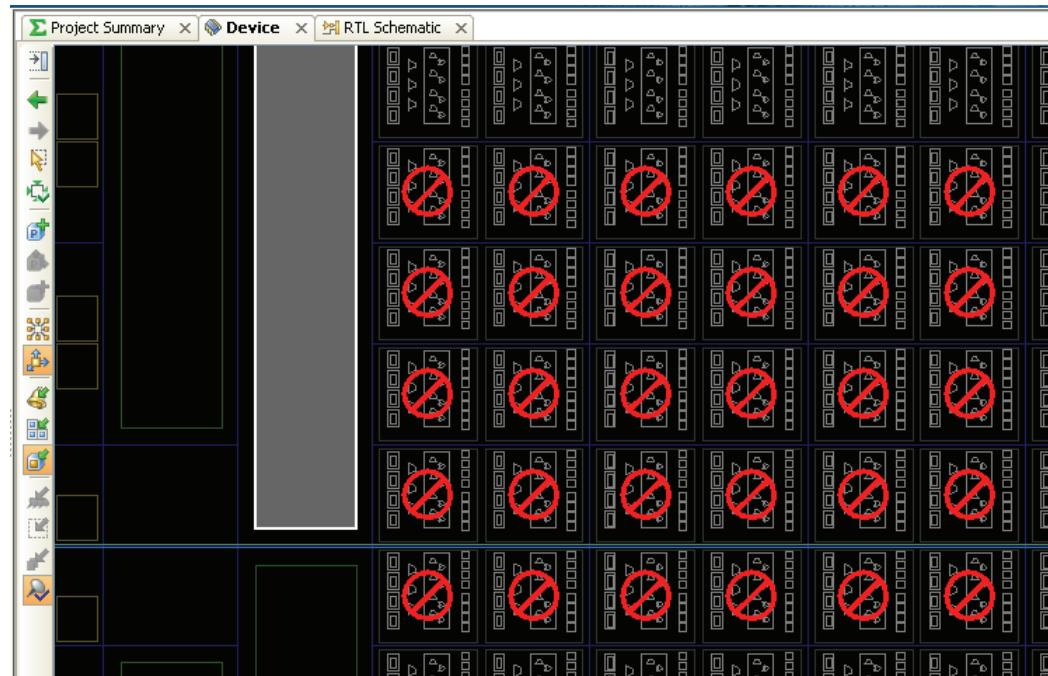

Figure 10-31: Prohibited Sites in the Device View
3. Select the **Set Prohibit** command from the right-click pop-up menu. The prohibited sites display a red warning, as shown in Figure 10-31.